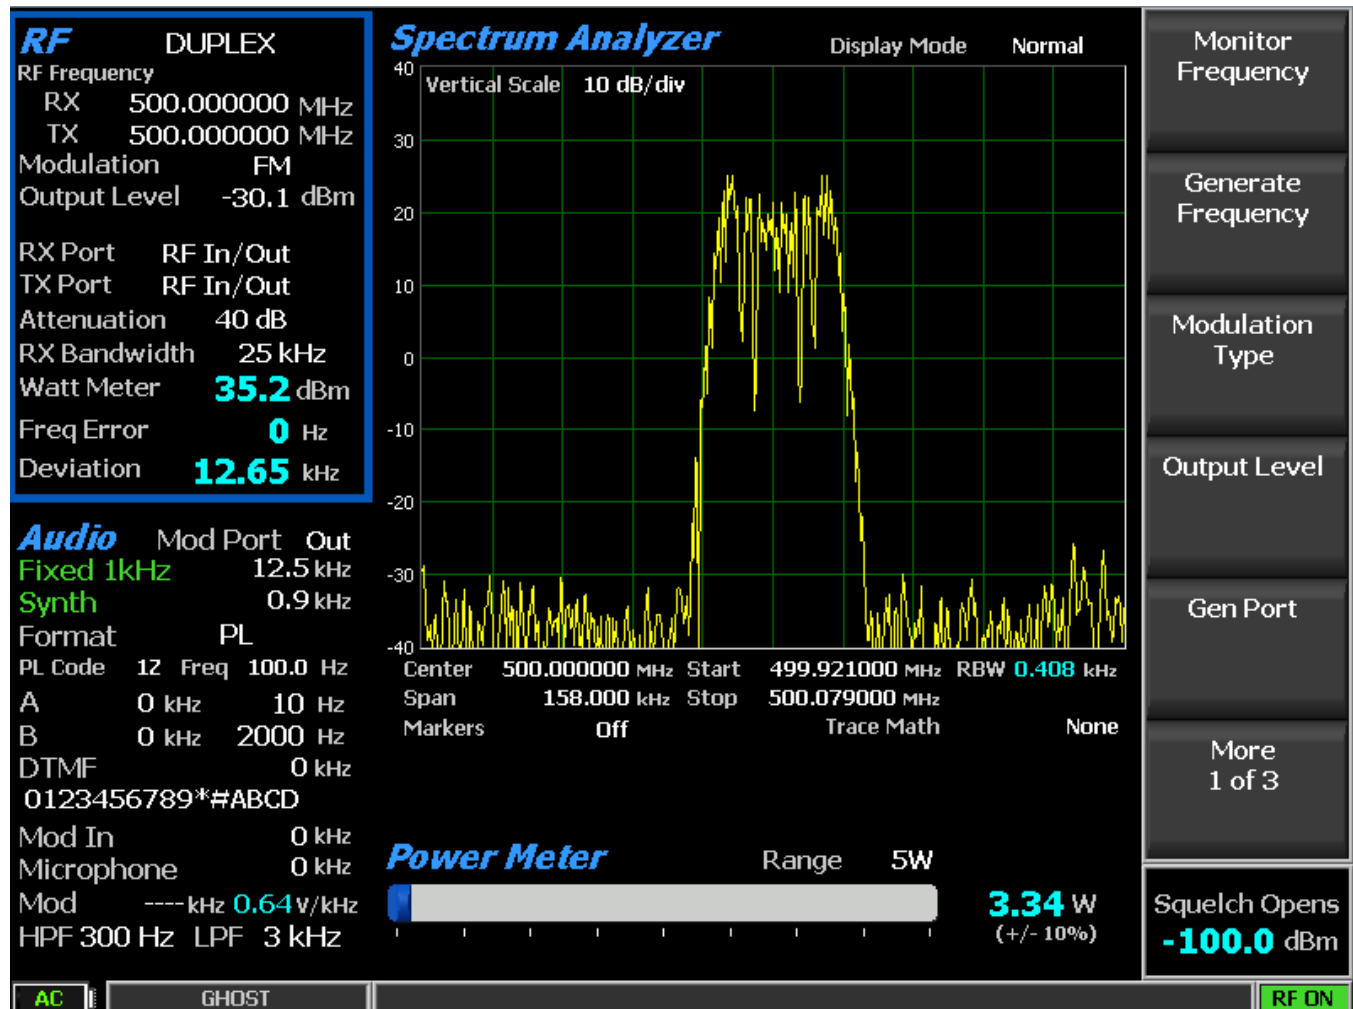

Figure 3.2.1-2 Monitor Mode submenu after RF Zone soft key press
To adjust the RF settings, press the hot key 1. The RF Zone area of the display highlights, and the soft key submenu shown in Figure 3.2.1-2 appears with the following selections: